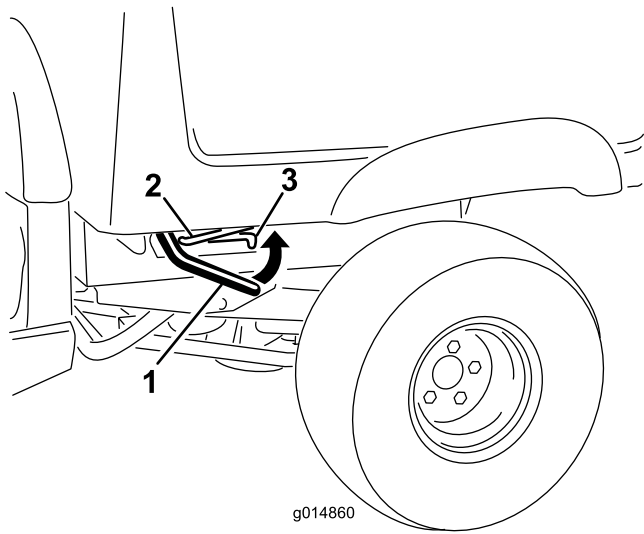

Figure 13
1. Lift the lever on either side of the bed and lift the bed up (Figure 13).
1. Raise the cargo bed slightly by lifting up the latch lever (Figure 13).